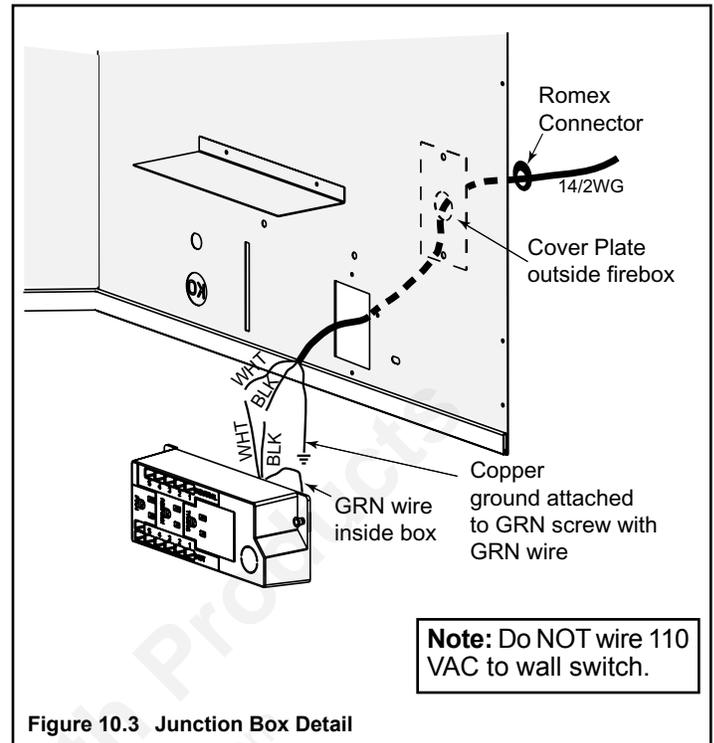

Figure 10.3 Junction Box Detail
This appliance requires a 110 VAC supply to the appliance junction box for operation. (See Figure 10.1 for a wiring diagram and Figure 10.3 for junction box wiring.)
- It is recommended that a 110 VAC junction box be installed for use with a fan or remote control. (See Figure 10.2 for a wiring diagram and Figure 10.3 for junction box wiring.)
- Remove the cover plate located on the outer shell - right side (see Figure 10.3).
- Remove the screw attaching the junction box/receptacle to the outer shell, rotate the junction box inward to disengage it from the outer shell (see Figure 10.3).